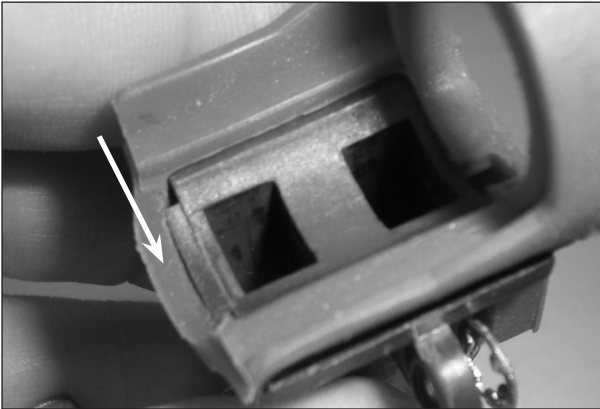

Figure 6.4 - Improper Seat
- 6. Place the orange rubber seal (6) over the brush holder ensuring proper position and seat (refer to Figure 6.4 & 6.5) .